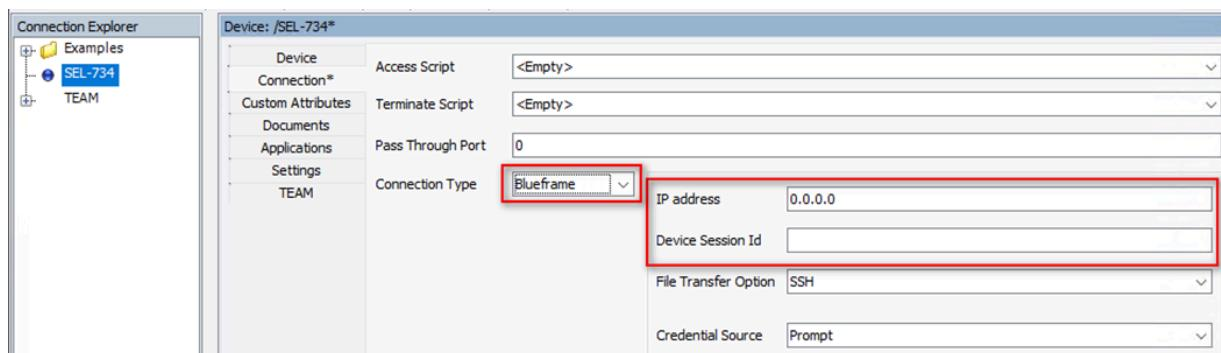

Figure 5.90 Blueframe Connection Parameters
- Step 5. Select the Connection Type dropdown and select Blueframe as the connection option. Then fill in the required information gathered from the Blueframe server for the IP address and the Device Session Id (*Figure 5.90*). After the information is entered, select **Save** at the lower-right corner of the window.